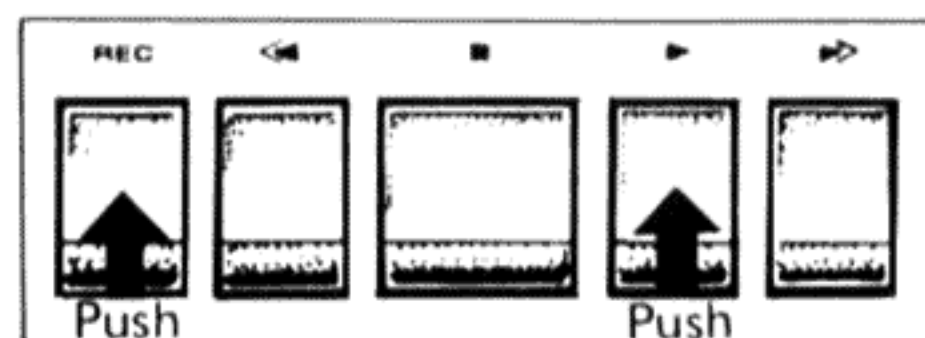

Fig. 39
2. At the point from which you want to re-record, push down the REC and ►PLAY buttons simultaneously (Fig. 39). The unit will switch to recording mode without the tape being stopped. You must push down both the REC and ► PLAY buttons simultaneously. Pushing the REC button alone will stop the tape.